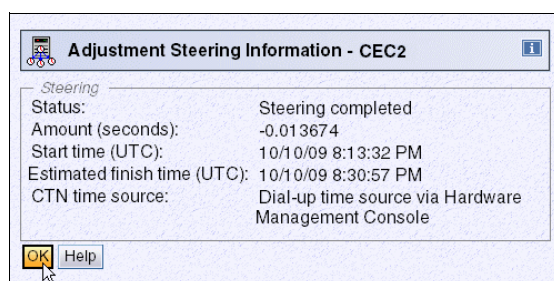

Figure 6-74 Adjustment Steering Information
4. Click **Adjustment Steering**, and the Adjustment Steering Information displays (Figure 6-74).